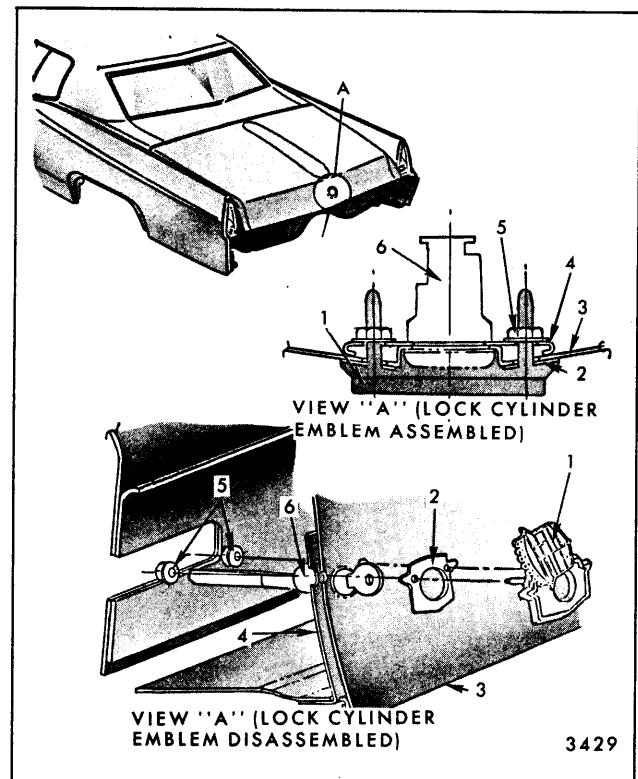

Fig. 8-22—Lock Cylinder Removal - Cadillac "C and E" Styles
6. On Cadillac "C & E" styles, the emblem is retained by stud nuts. Following removal of emblem, lock cylinder can be removed. (Refer to Fig. 8-22).